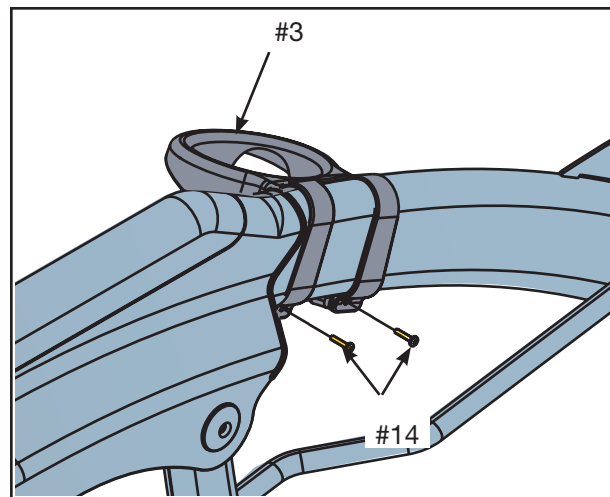

Figure 13
- C. Using a Phillips head screwdriver, attach the water bottle holder (#3) to the frame with the two 8-16-18 x 0.75 screws (#14). See Figure 13. **NOTE:** Do not overtighten.